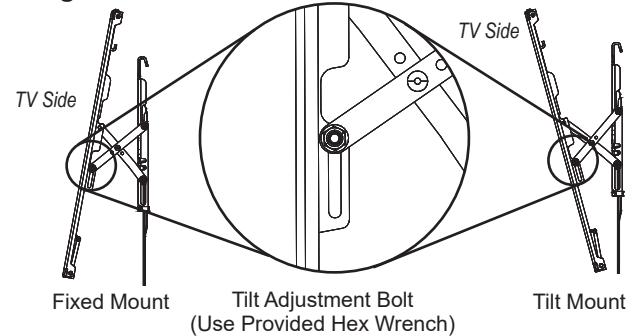

Figure 6
If display is not horizontally level when mounted, adjustment screws are included at the top of each arm for micro-adjustments (Figure 6). Use the provided hex wrench (P) to raise or lower the screw and adjust the mount accordingly.